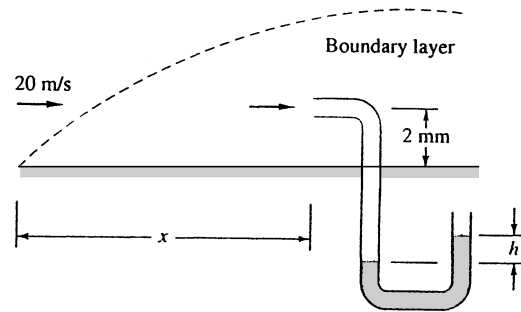

Fig. P7.20
**7.20** Air at 20°C and 1 atm flows at 20 m/s past the flat plate in Fig. P7.20. A pitot stagnation tube, placed 2 mm from the wall, develops a manometer head  $h = 16$  mm of Meriam red oil, SG = 0.827. Use this information to estimate the downstream position  $x$  of the pitot tube. Assume laminar flow.
**7.21** For the experimental set-up of Fig. P7.20, suppose the stream velocity is unknown and the pitot stagnation tube is traversed across the boundary layer of air at 1 atm and 20°C. The manometer fluid is Meriam red oil, and the following readings are made: